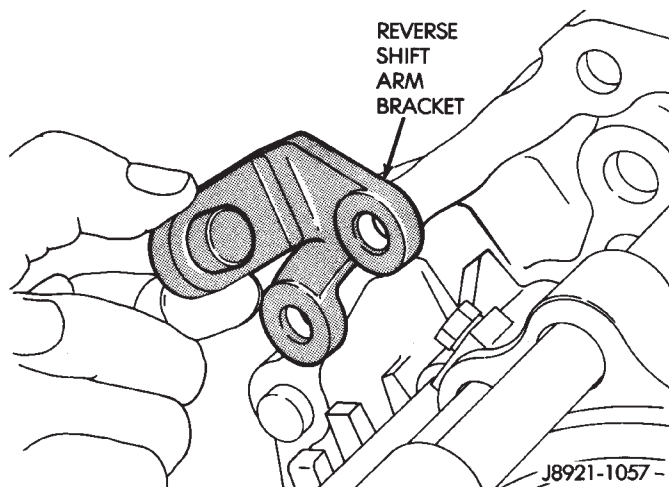

Fig. 27 Removing Reverse Shift Arm Bracket
(6) Remove bolts attaching reverse shift arm bracket to intermediate plate. Then remove bracket (Fig. 27).